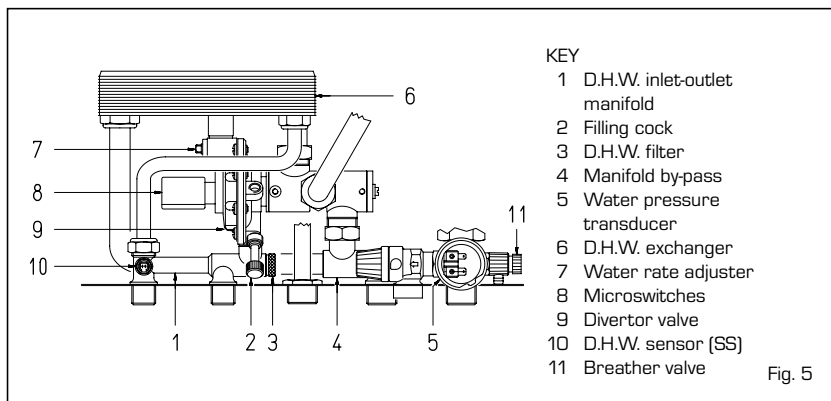

Fig. 5
- models "25 OF - 30 OF - 25 BFR - 25 BF - 30 BF": using the fill cock on the pressure switch valve (2 fig. 5).